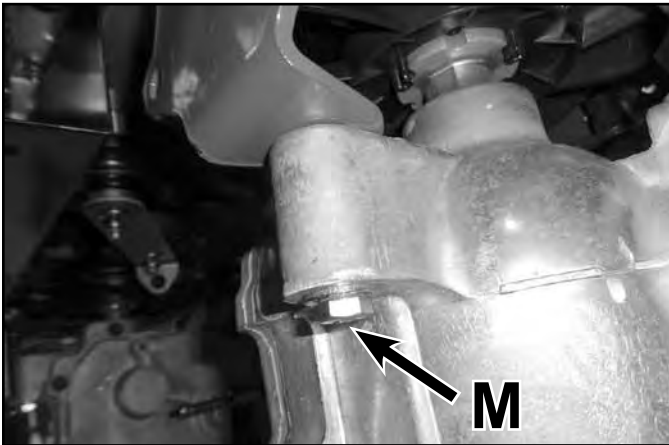

Fig. 079
4th - Torque fasteners (M) to specification – 17 ft-lbs. (23 Nm) (Fig. 079)